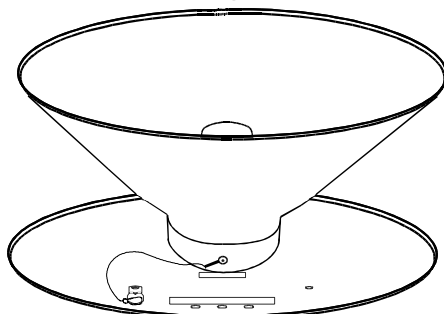

Figure 14. Axial Reflector Installation
4. Place the reflector on the base as indicated in Figure 14.